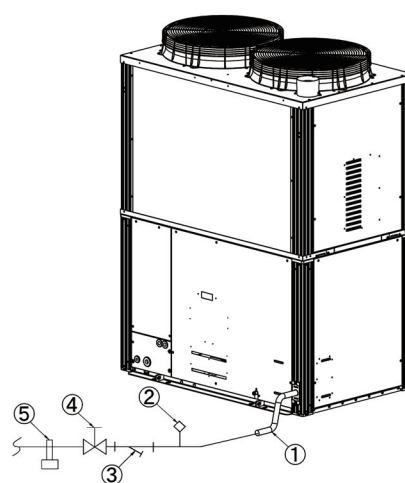

Fig. 12-1 Fuel Pipe Structure Diagram
As needed, attach devices ②, ③ or ⑤ to the outdoor unit external fuel gas pipe. (Fig. 12-1)
① Flexible gas hose ② Pressure release tap ③ Strainer ④ Master valve ⑤ Pipe bracket